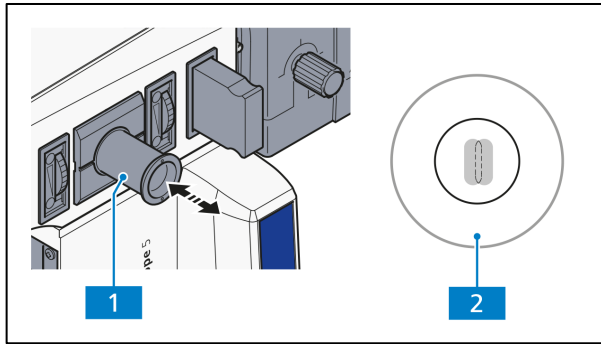
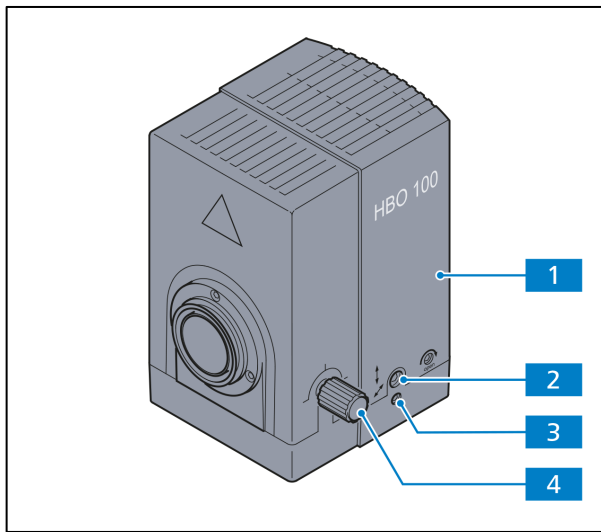

Fig. 3-35 Adjustment tool
Fig. 3-36 Adjusting the HBO 100
- Turn on the HBO 100 illuminator (Fig. 3-36/1) on the power supply unit for the HBO 100 (Fig. 3-55/1) and wait until it reaches its operational temperature.
- Pull the adjustment tool (Fig. 3-35/1) out of the microscope stand. The lighter colored focal point of the lamp HBO 103 W/2 and its slightly darker reflection become visible in the black glass window of the adjustment tool.
- Use the knurled button (Fig. 3-36/4) for collector adjustment to focus the brighter focal point.
- Use the adjustment screws (Fig. 3-36/2 and 3) to focus the darker focal point (reflection) as you would for the focal point image (Fig. 3-35/2) in the inscribed adjustment circle.